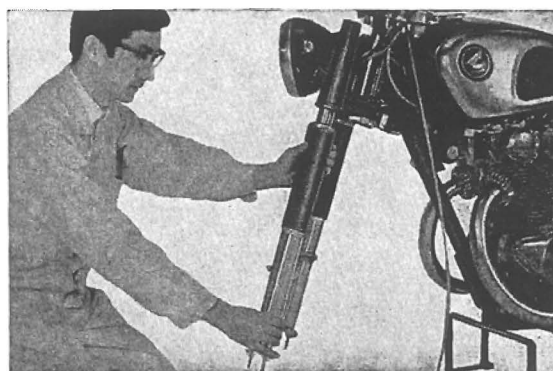

Fig. 4.23 Installing the front fork into the steering
5. Install the front cushion assembly on the steering stem. Fill each cushion with **285~295 cc** (17.4~18.0 cu-in) of hydraulic fluid through from the front fork bolt hole and install the front fork bolt upon completing the filling. Lock the cushion at the bottom bridge by tightening the 10mm bolt. (Fig. 4.23)